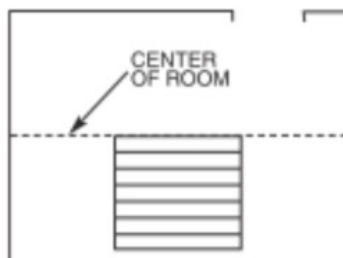

Fig. 1 Dry layout to determine width of border plank.
- Determine which direction the planks will run. Find the center of each of the end walls (the walls perpendicular to the long dimension of the planks) and place a pencil mark on the floor. Connect these points by striking a chalk line down the center of the room (Fig. 1). Do a dry layout of planks from the center line to the wall running parallel to the long direction of the planks to determine the width of the last row of planks (Fig. 1). Fig. 1 Dry layout to determine width of border plank.